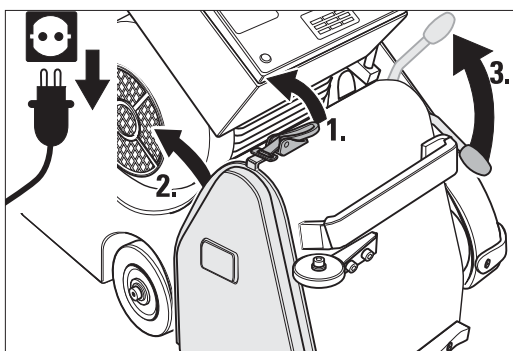

Fig. 11 Before exchanging, the sanding belt tension must be released. To do this, release the side cover and pull up the lever.
- 3 Remove the side cover (Fig. 11).
- 4 To release the tension on the sanding belt, pull up the opposite lever. This will lower the sanding drum (Fig. 11).